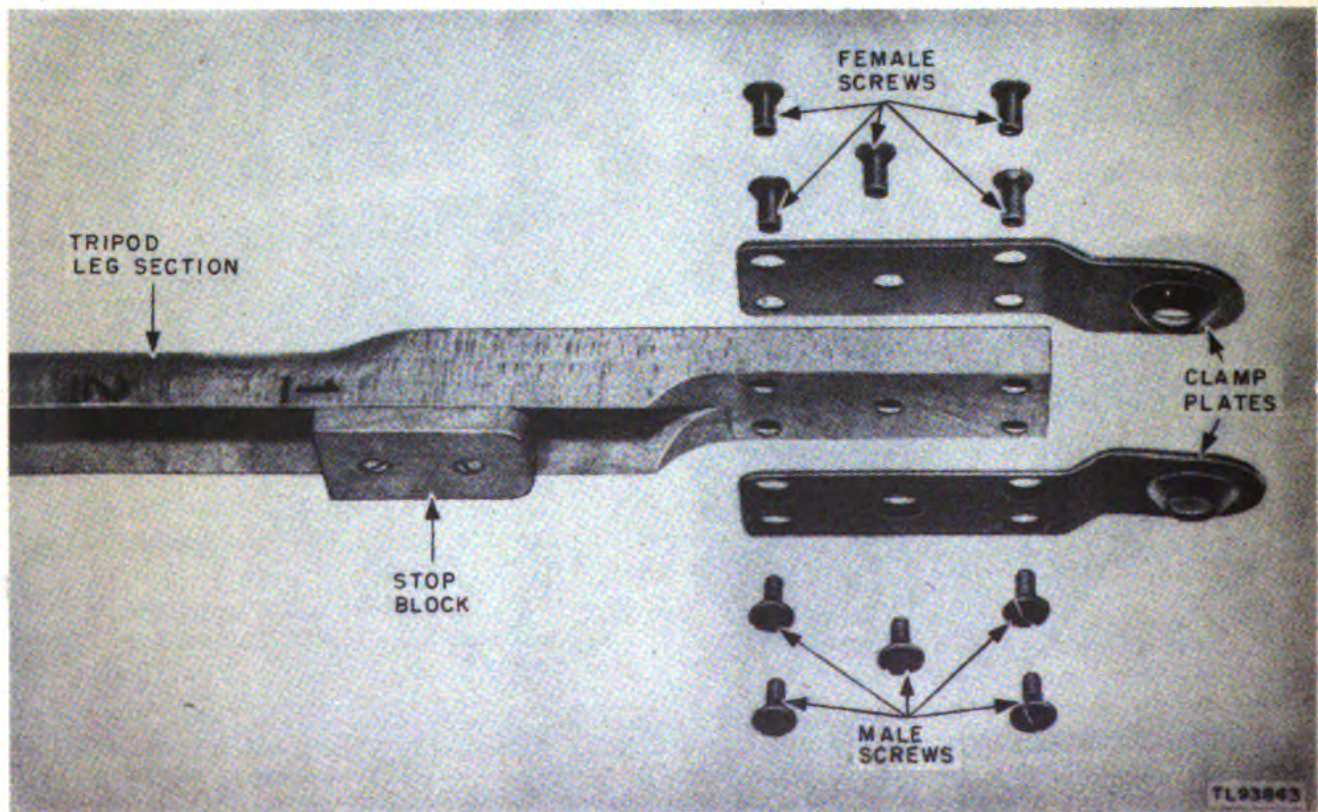

Figure 136. Tripod clamp assembly, exploded view.
77. Replacing Tripod Clamp Assembly (fig. 136)